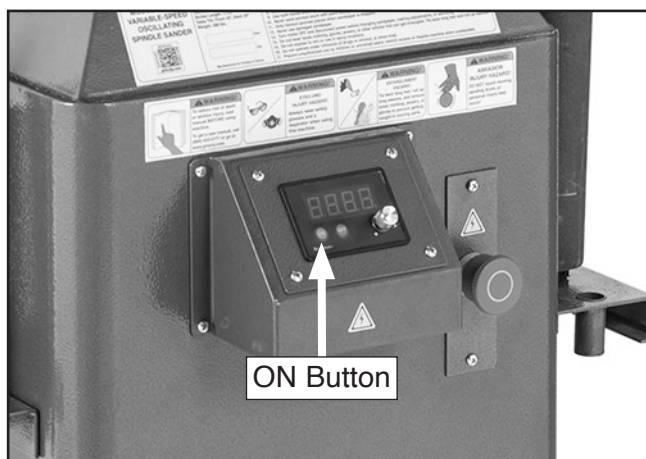

Figure 23. Location of ON button.
6. Press ON button (see **Figure 23**) to turn machine **ON**. Verify motor starts up and runs smoothly without any unusual problems or noises.